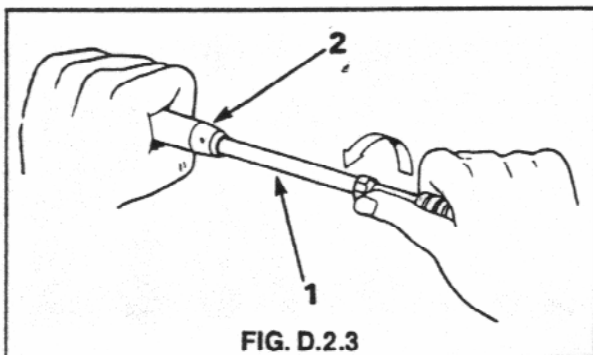

FIG. D.2.3
3. Unscrew the gas piston from the bolt carrier body. See Fig. D.2.3.